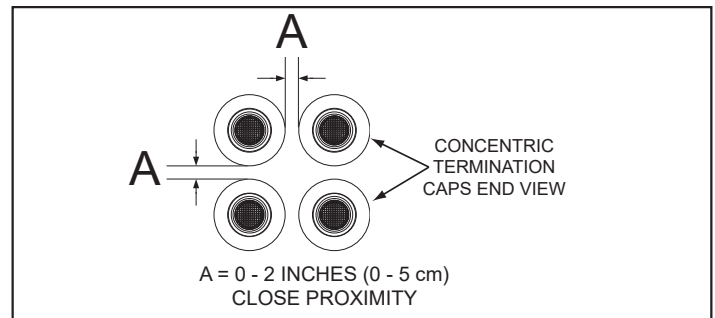
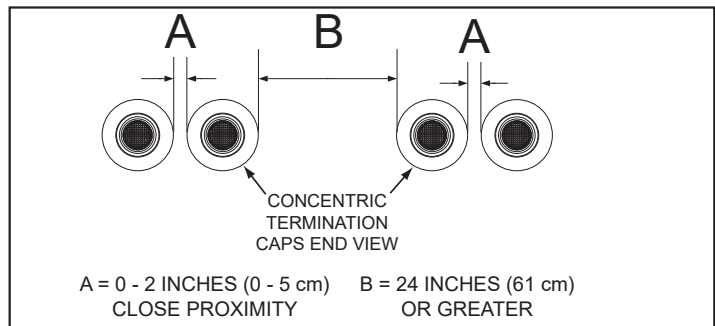

Figure 47. Four Concentric Terminations - Close Proximity
Figure 48. Four Concentric Terminations in a Line
1. When installing four concentric terminations through a roof or through a sidewall in close proximity, they can be arranged into stacked rows of two, as shown in **Figure 47**, or lateral rows of two as shown in **Figure 48**.
2. Four is the maximum number of concentric terminations that can be installed in a group where all terminations are in close proximity as shown in **Figure 47**.
Four concentric terminations can be installed in close proximity as shown in **Figure 51**. See **Figure 47** (page 43) and **Figure 48** (page 43) for detailed information on clearances and additional arrangement options.